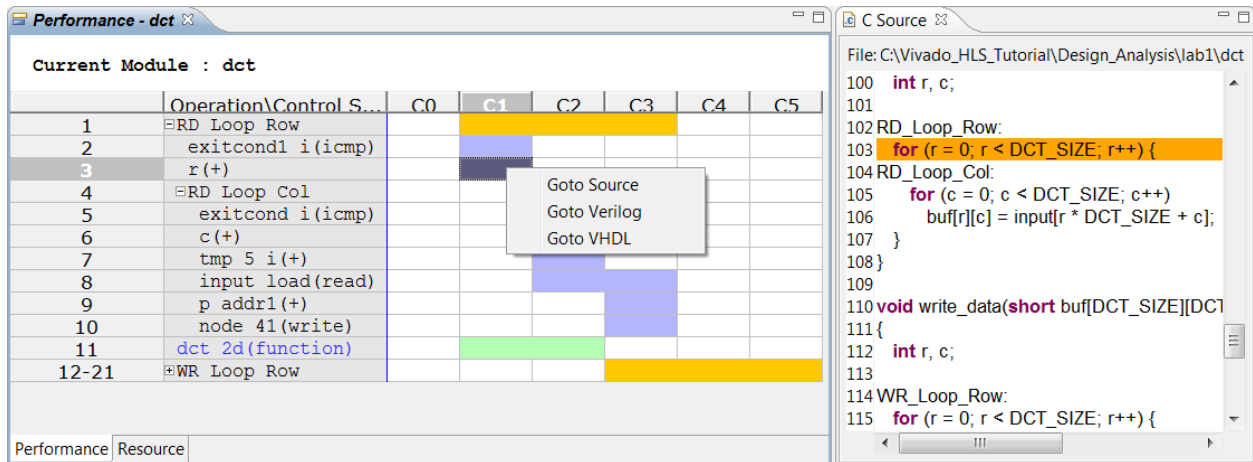

Figure 115: C Source Code View
3. Select the adder in state C1, right-click and select **C source code** (**Figure 115**).
This opens the C source code to highlight which operation in the C source created this adder. From the details on screen (also shown in Figure 115), you can determine it is indeed the loop counter. It is the only addition on this line, and the variable is named "r".